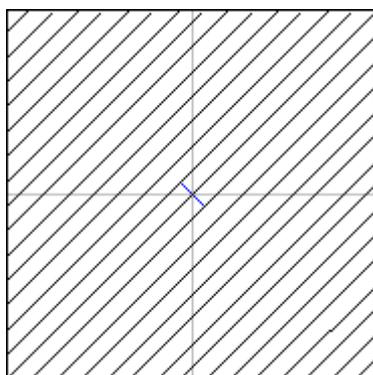

Fig. 3.2.08
**Angle Start:** The start angle of each hatch line. Fig.3.2.08 shows the fill representation when this value is  $45^\circ$ .